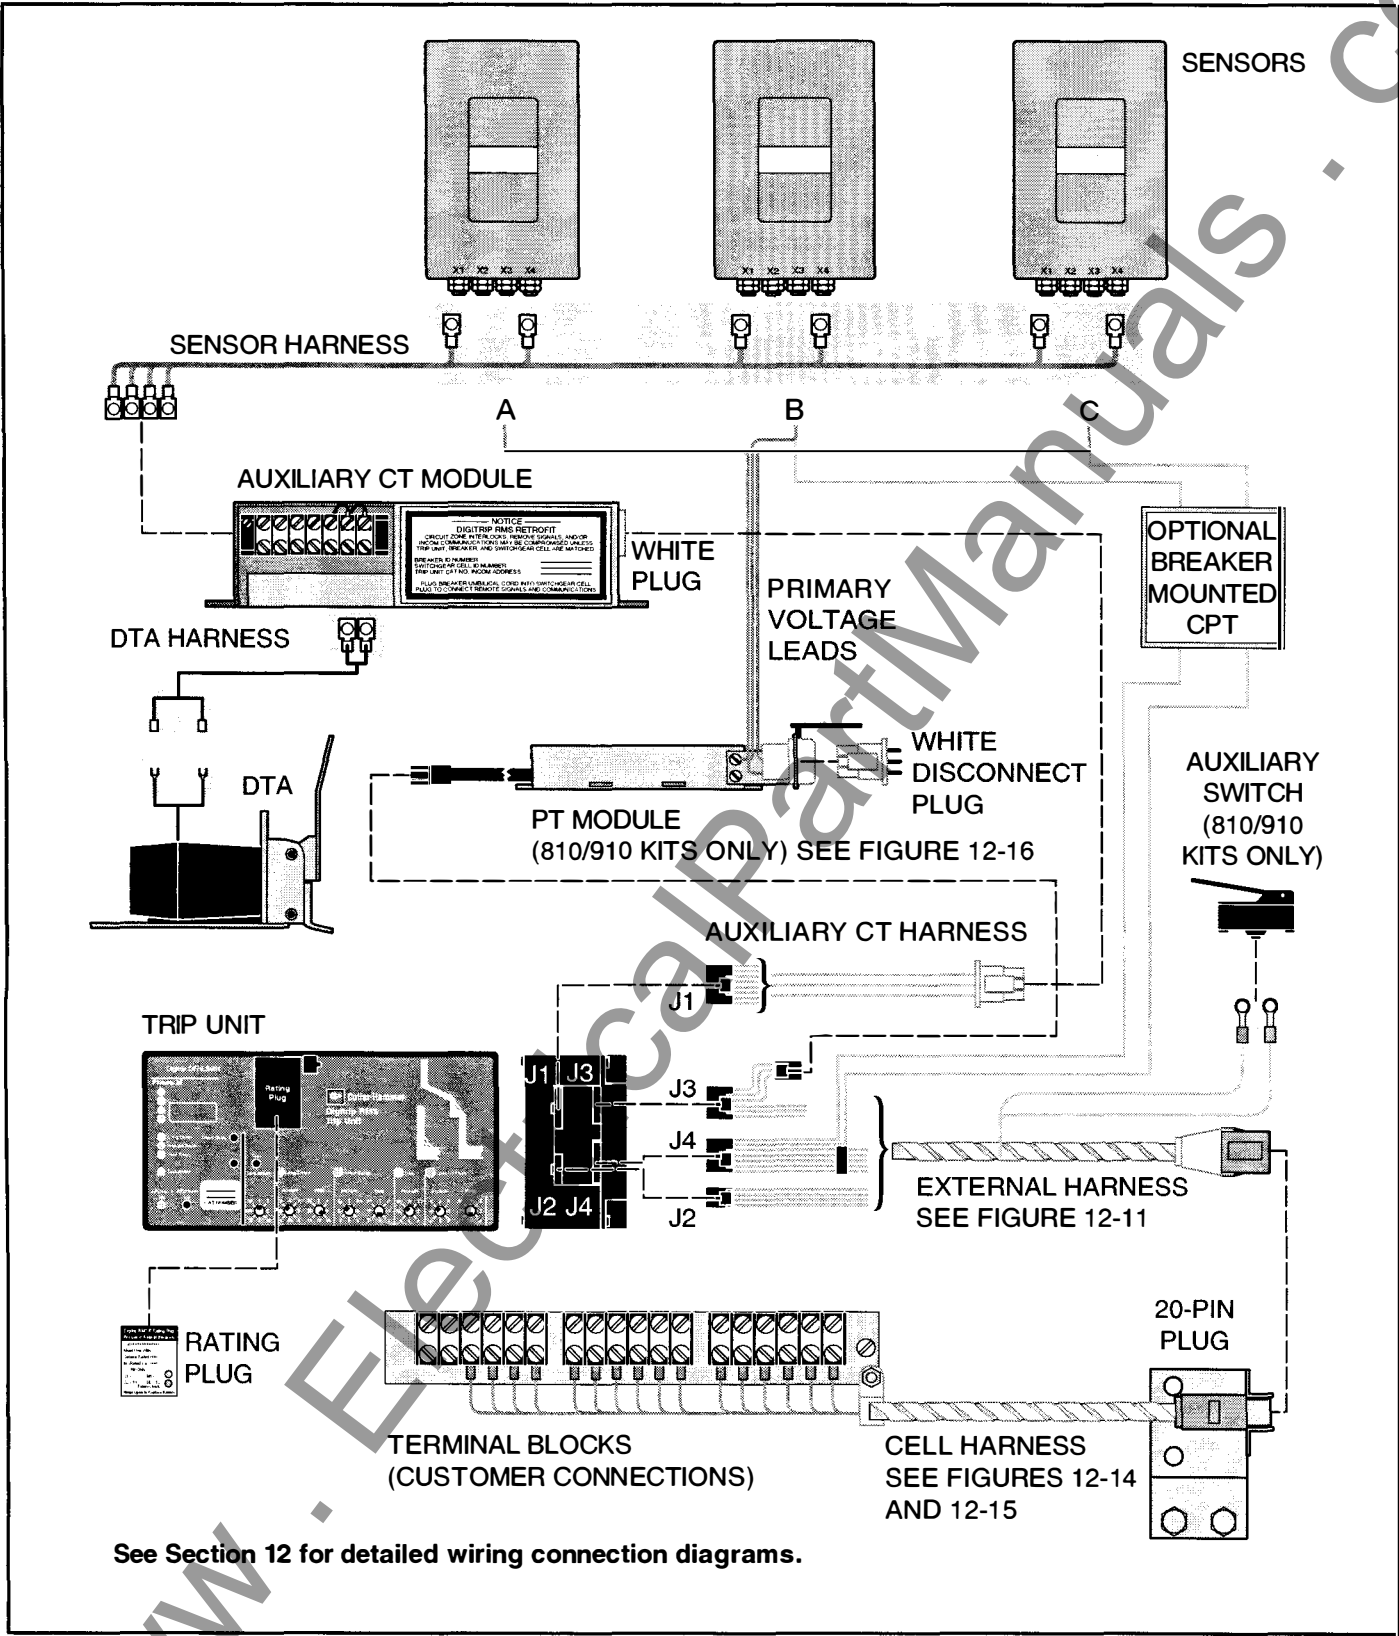

Fig. 7-1 Digitrip RMS 810 & 910 Wiring
A 120 VAC control power source is required to power up the Power Relay Module (ATR) remote signals, the local mode of trip indicators, PowerNet Communications, and the Trip Unit Alphanumeric Digital Display. A Potential Transformer (PT) Module provides the distribution system voltage input to the Trip Unit. The PT Module is provided with a disconnect plug which is to be disconnected in the event of Breaker dielectric testing. Figures 7-1, 12-10, and 12-14 provide the Retrofit Kit wiring connections on the Breaker and in the Switchgear Cell. All Retrofit Kit components are mounted on the Breaker, except the Cell Harness Assembly.
*The Zone Interlock and ATR Relay Contacts are available on 810 & 910 Kits with the normal Cell Harness. A popular option is to specify the Breaker Mounted CPT with a simplified Cell Harness. In this case, the Zone Interlock and ATR contacts are omitted and only the INCOMM connections are required in the Cell (Figure 7-1).